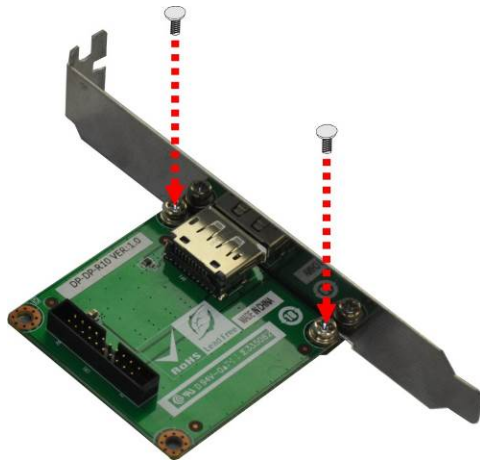

Figure 3-18: iDP Module with Bracket
Step 3: Secure the iDP module with the bracket by tightening the two retention screws on either side of the iDP module.(Figure 3-18)